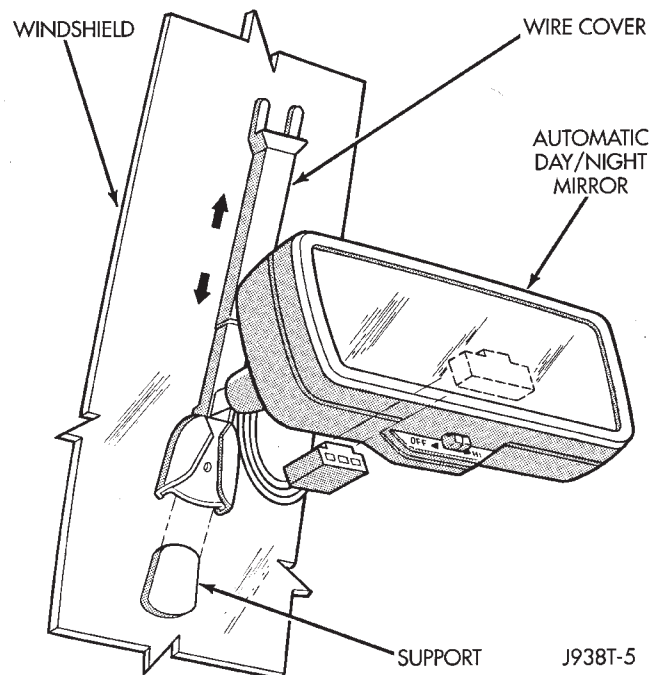

Fig. 2 Automatic Mirror Removal
- (1) Remove wire cover by grasping lower portion of wire cover and sliding into upper portion and off of mirror base (Fig. 2).